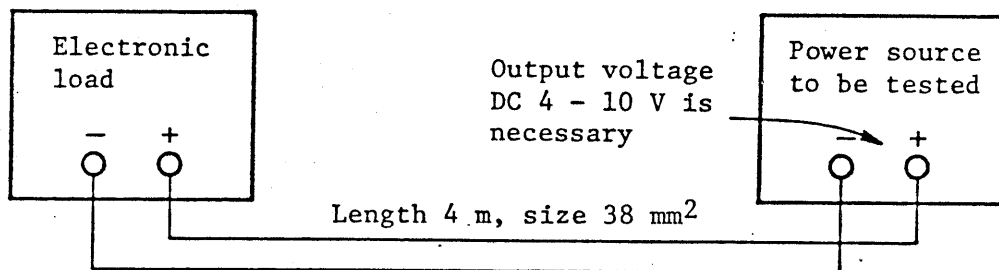

Figure 2-1-4
- ⑭ C.R RANGE. Switch to change resistance range in at the constant resistance mode.
- ⑮ C.C RANGE. Switch to change the range for constant current mode.
- ⑯ FUNCTION. Either of the following four constant current modes may be selected: EXT (External Voltage Control), INT (Manual Control), SW (Switching Operation), and DC (DC Operation).
- ⑰ PRESET. By depressing this switch, current value or resistance value will be indicated on the digital ammeter depending on the state of the mode switch. At the constant current mode, current value may be preset by either CURRENT I or CURRENT II dial which is selected by the manual switch. At the constant resistance mode, resistance value may be preset by the CURRENT/RESISTOR dial.
- ⑱ PRESET W INPUT POWER. Loading power (watt) is indicated on the voltmeter while power limit value is indicated on the power indicator.
- ⑲ POWER LIMIT. Semi-fixed adjuster to change power limit value. The value may be set by use of the power indicator while depressing PRESET W switch.
- ⑳ CURRENT MONITOR. Current monitor terminals (5 mV/A). At the switching mode, current wave form and switching frequency and duty may be adjusted through an oscilloscope.
- ㉔ Terminal Base. The terminal base is installed for external controls. (See Fig. 2-1-4). Terminals for the following operations are installed: External voltage control and resistance control under the constant current mode; external voltage control, sensing and one-controlled parallel operation; sensing under the constant voltage mode; and external control of the LOAD switch.